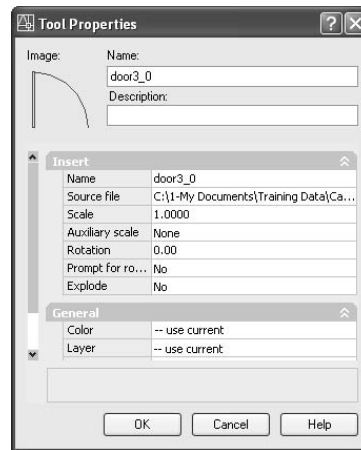

FIGURE 9.25: The Tool Properties dialog box
7. Place the cursor on door3_0 on the new palette, right-click, and then select Properties to open the Tool Properties dialog box. It displays information about door3_0 (see Figure 9.25).